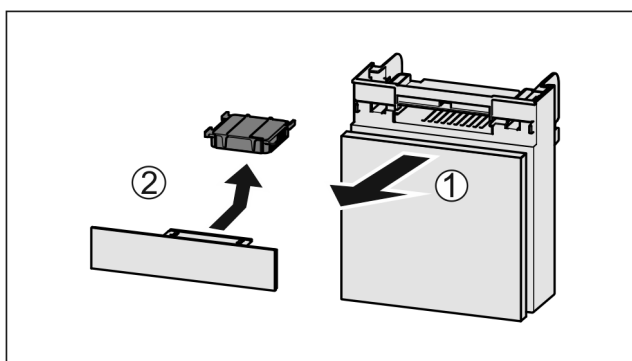

Fig. 175
- Pull out the compartment Fig. 175 (1).
- Remove the carbon filter Fig. 175 (2).